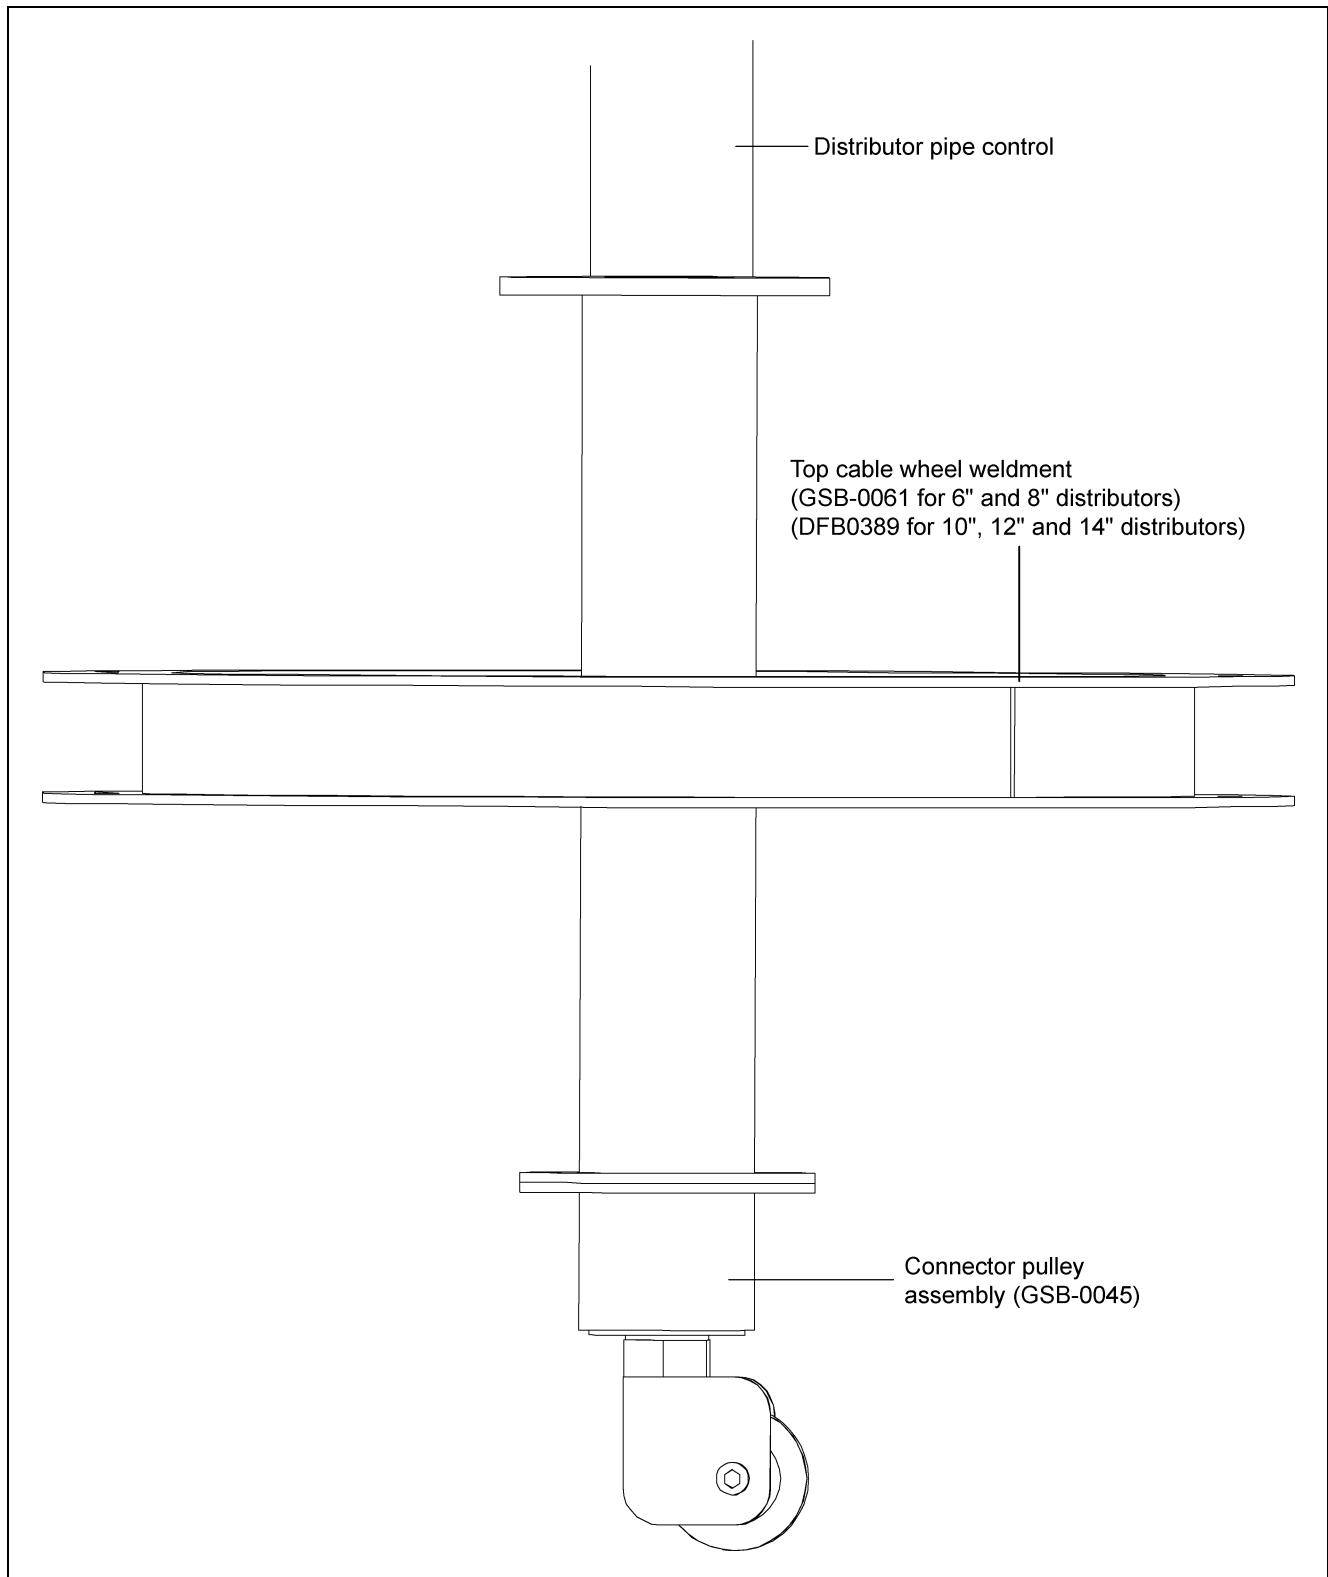

Figure 5B
The next piece to install is the connector pulley assembly (GSB-0045). This piece mounts to the top cable wheel weldment as shown in Figure 5B. These are fastened together using two (2) 5/16" x 1" bolts and nuts, supplied in the hardware package (FC-DCG-HDW).